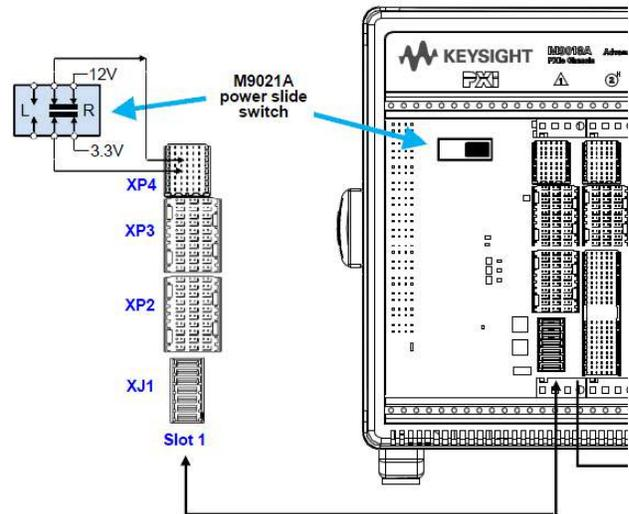

Figure 4. Backplane switch—M9021A power slide switch—must be set correctly (M9018A only).
- Inspect the blue LED's DS301 and DS501. They must be lit indicating power is applied to M9021A. If the blue LED's are not lit, set power switch as shown in Figure 4.